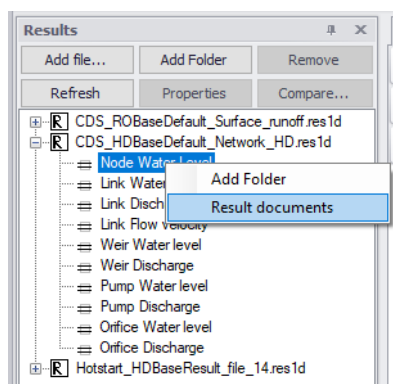

Figure 20.8 Create result documents from the Results panel via the local context menu (i.e. right-click)
- Right-click on a result file layer or result item on the Results panel (Figure 20.8).